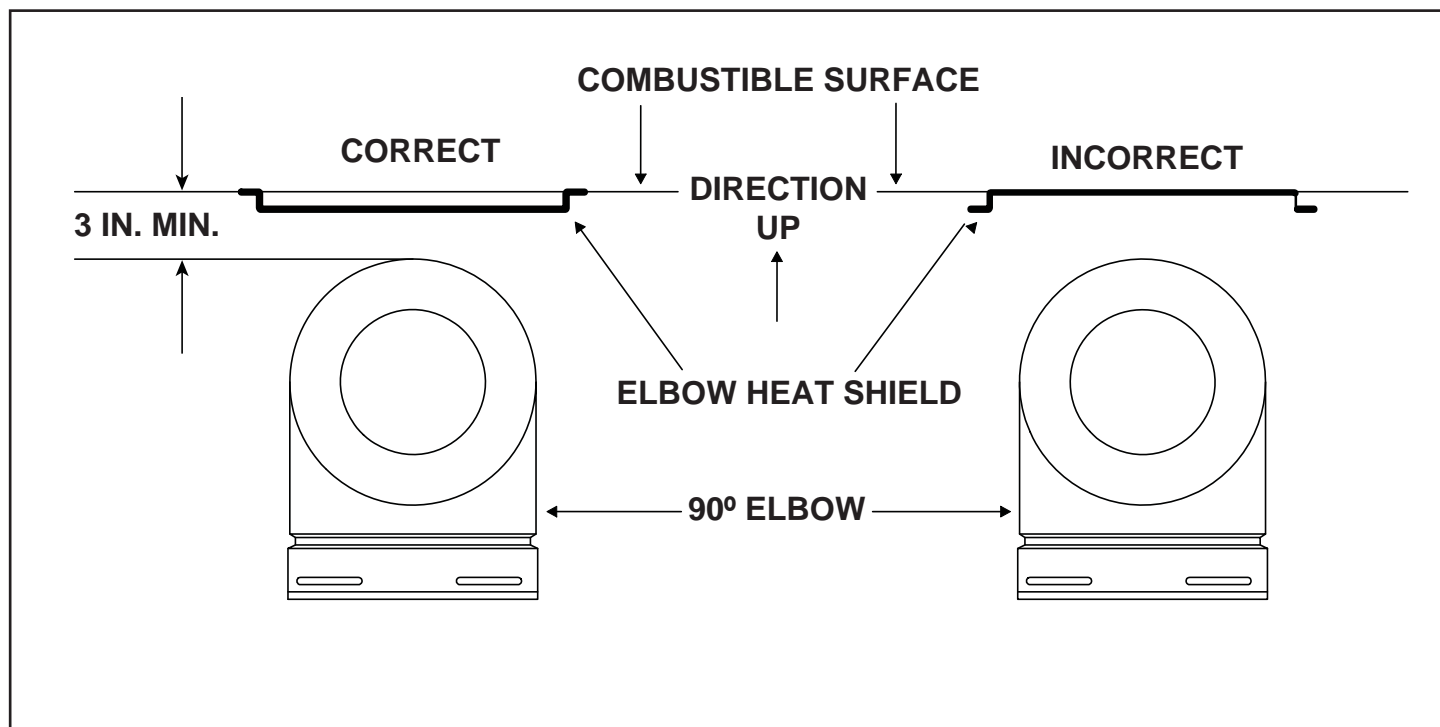

Figure 10.17 Orientation of Elbow Heat Shield
2. Fasten the shield in place using the four pilot holes provided in the part. The shield should be oriented such that the 13 1/8 inch dimension (longest dimension) is running in the same direction the elbow is pointing. The shield should be centered directly above the elbow, and positioned so that it creates a 1/2 inch airspace between the shield and the combustible surface. See Figure 10.17.